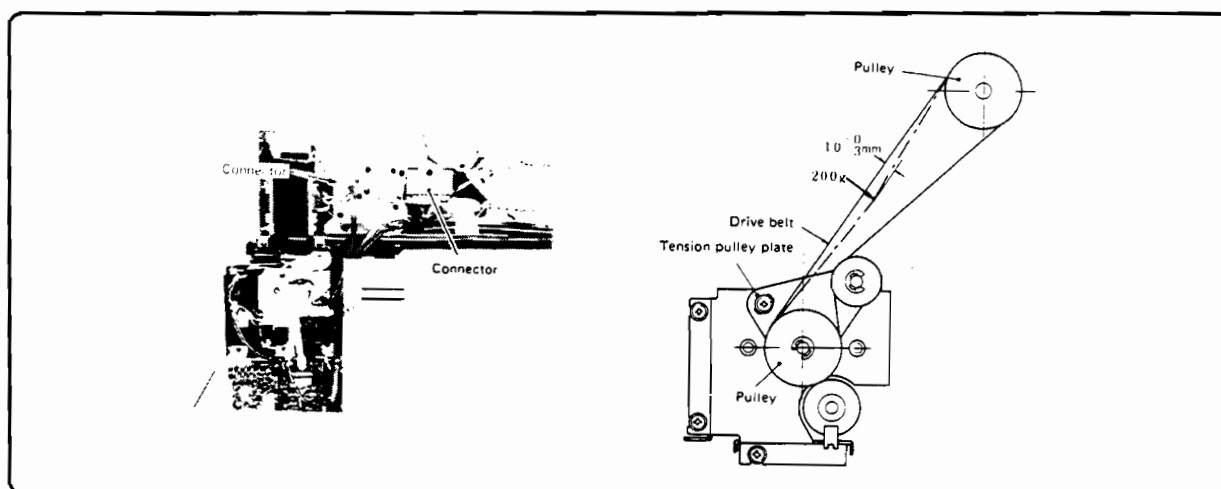

Figure 6-133. PDX Cables and Drive Belt
4. If duplex is installed, remove the AC cable from the duplex connector (Figure 6-133).
5. Loosen the screw on the tension pulley plate, and remove the drive belt from the pulley (Figure 6-133).
3. Adjust the tension of the drive belt (Figure 6-133).